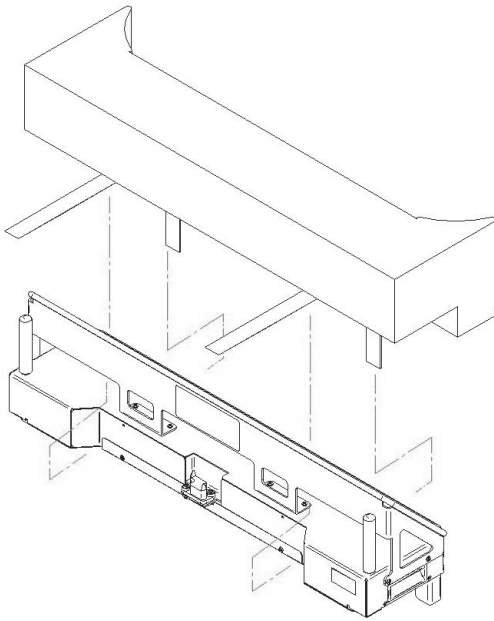

Figure 101 – Strapping the mattress to the bed extender option
1. Strap the appropriate mattress extender cushion onto the bed extender option (Figure 101).